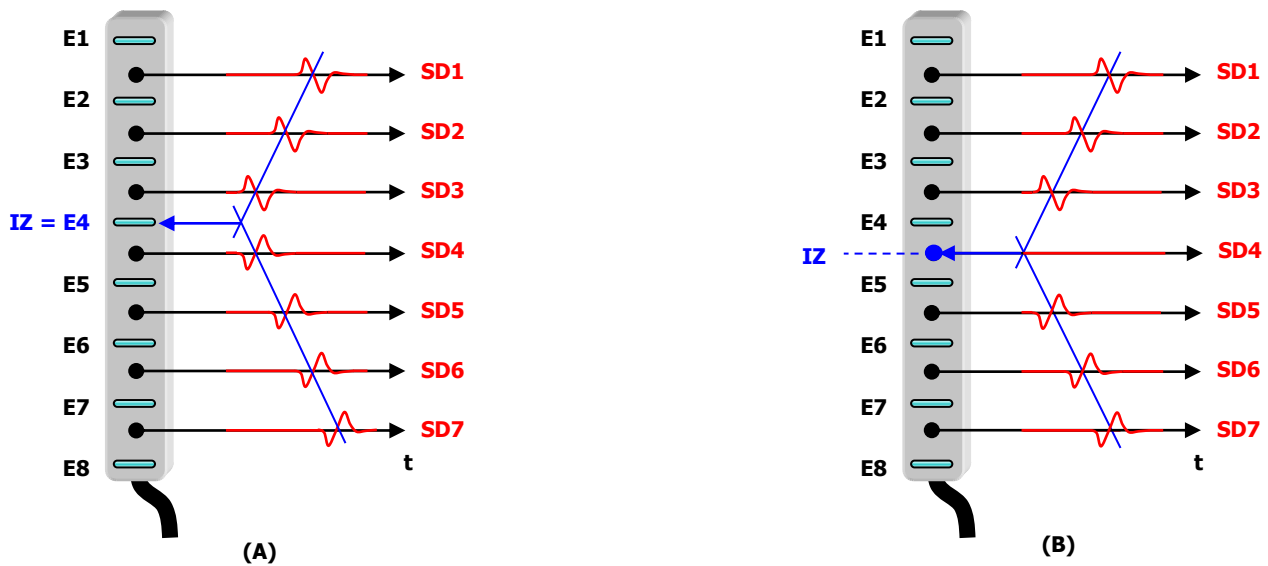

FIG. 16: Example of identification of the innervation zone (IZ) of a motor unit.
- When a good quality signal has been obtained, move the array along the muscle fiber direction until you can observe the innervation zone (*IZ*) near the middle of the array; it has to be possible to detect clearly the action potentials inversion. Identify the position of the *IZ* as indicated in FIG. 16 and mark it on the skin with a biocompatible marker. Note that different MUAPS may have different *IZ*